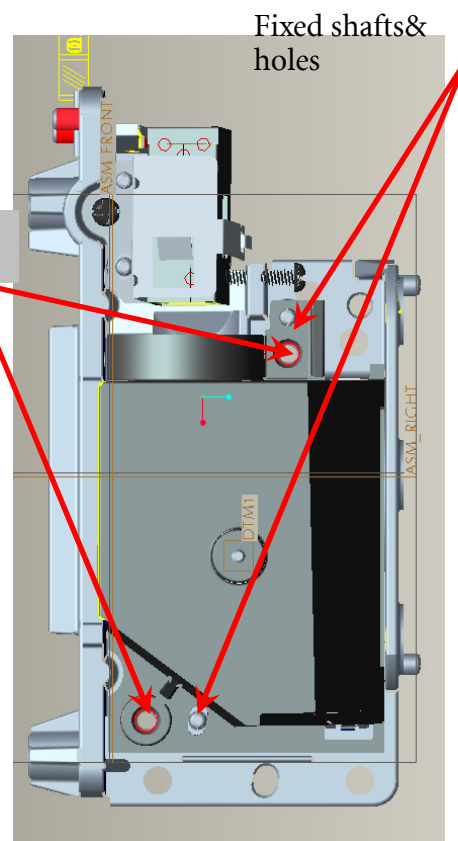

Fig. 4-2
4.2 To assemble "HSG ILL SUB Module" with "HSG DMD" and cover over on "AL" and the then lock with screws(Fig. 4-2).